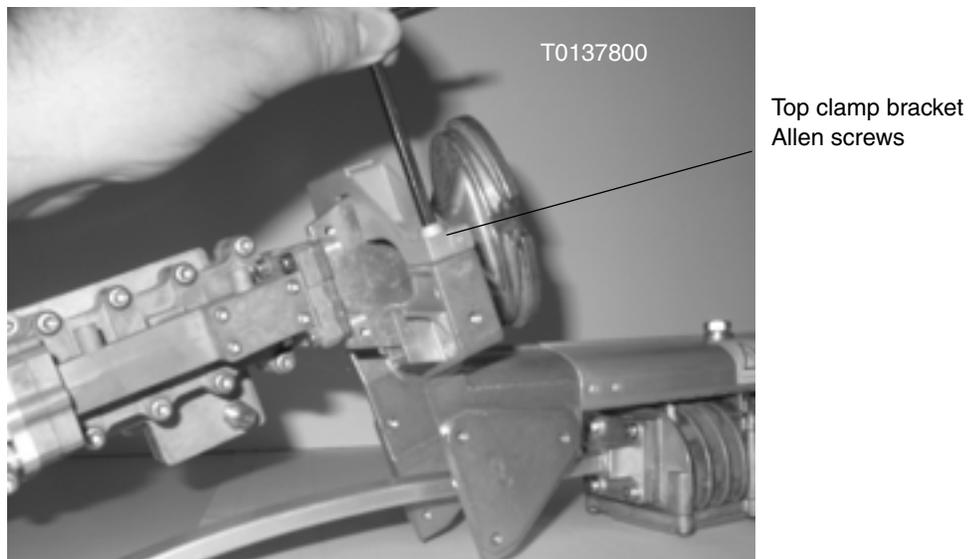

Figure 5: Remove top clamp bracket
3. Use a 3/16-inch Allen wrench to remove the two top clamp bracket Allen screws and any washers. See Figure 5.